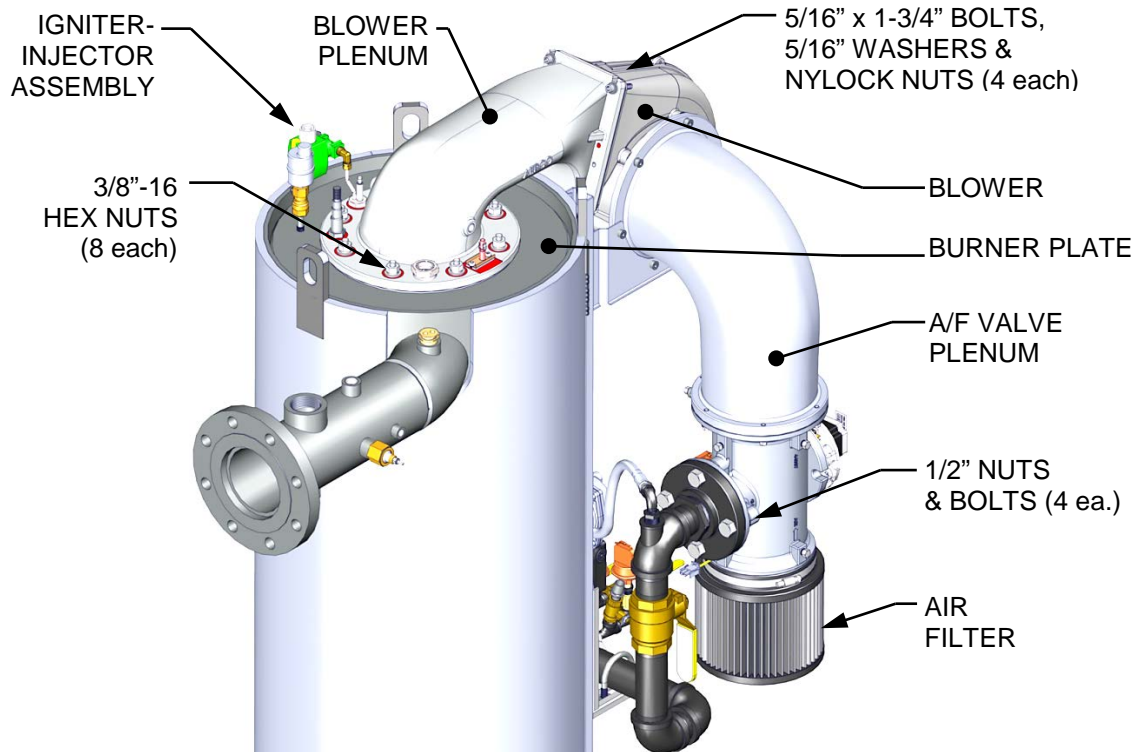
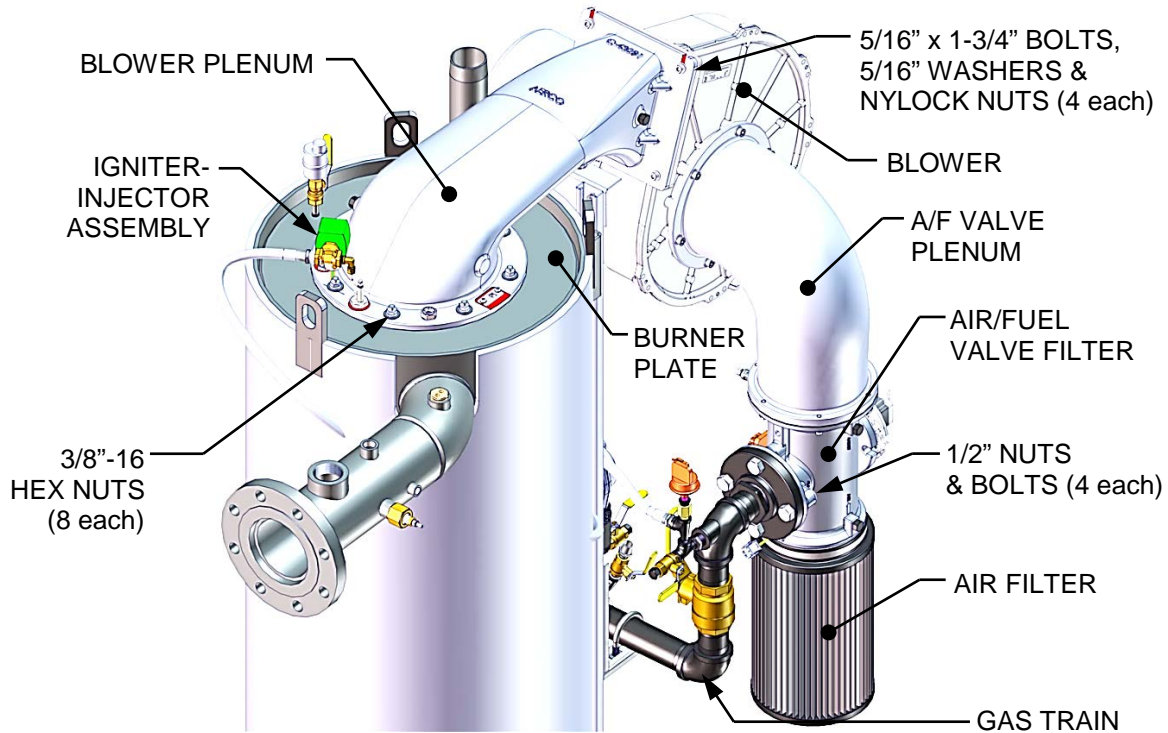

Figure 5-5a: BMK 1500/2000 Burner Assembly Mounting Details
Figure 5-5c: BMK 2500/3000 Burner Assembly Mounting Details
9. Loosen and remove the four 5/16 x 1-3/4" bolts, washers, and nuts from the blower plenum where it attaches to the blower. See Figures 5-5a & 5-5b (BMK 1500/2000) or Figures 5-5c & 5-5d (BMK 2500/3000).
11. Remove the eight (8) 3/8-16 nuts, using a 9/16" wrench, attaching the blower plenum to the burner. See Figures 5-5a & 5-5b (BMK 1500/2000) or Figures 5-5c & 5-5d (BMK 2500/3000).